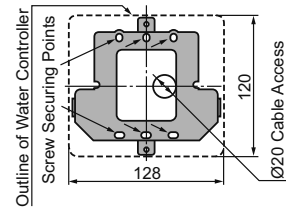

Fig.1
2. Use the wall mounting bracket as a template to mark and drill 3 holes, locating the cable access as shown in (Fig. 1).